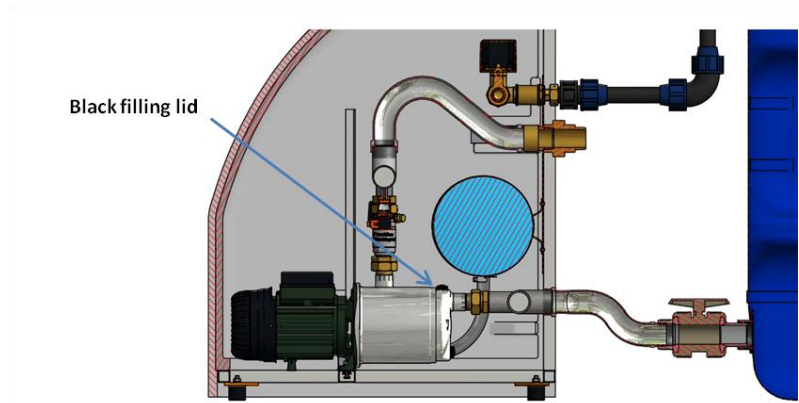

Figure 19: Venting of the pressure pump
- IV. Vent both pressure pumps by opening the black filling lid until water is discharged (see Figure 19).